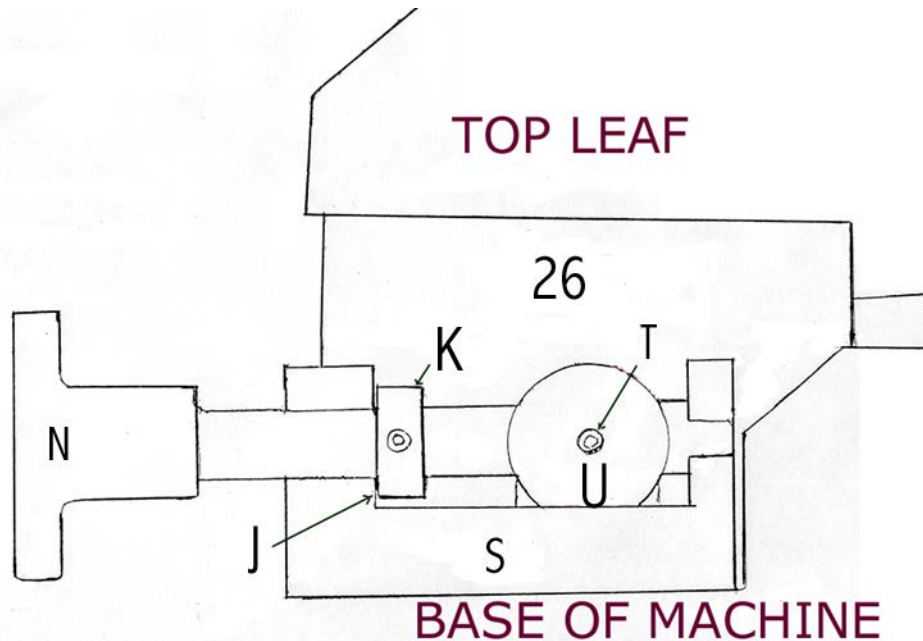

Fig. 8
If the top leaf creeps forward when clamping material - check for excess clearance at point J between collar K and adjusting screw holder S (fig. 8).
If handle (N) is hard to turn - loosen set screw (T) in end of nut (U) reference figure 8. Rap end of nut with heavy hammer while turning handle (N) . Snug set screw. NOTE: There is a plug under set screw T which prevents set screw from harming adjusting screw threads. Rapping the end of nut loosens plug, allowing screw to turn.